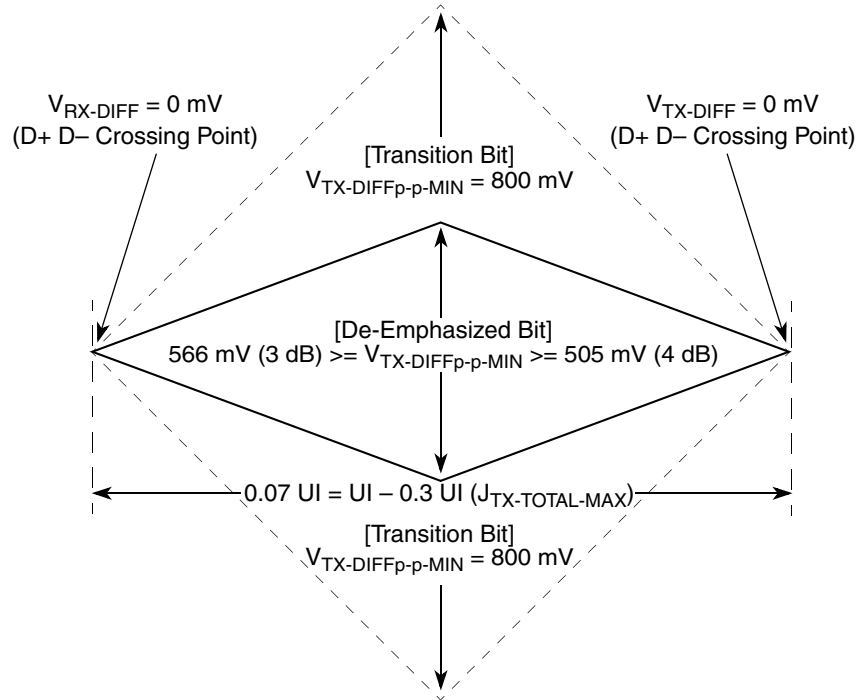
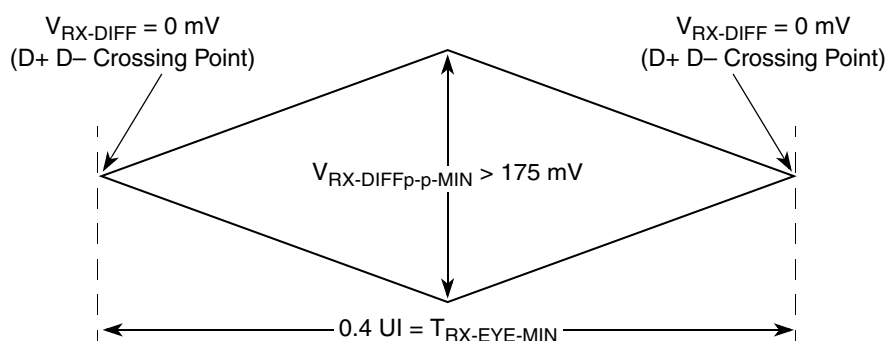
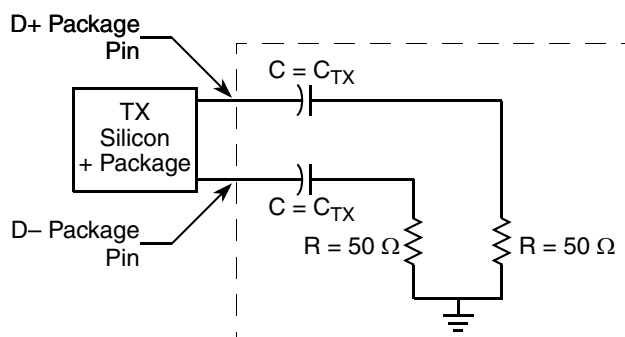

Figure 52. Minimum Transmitter Timing and Voltage Output Compliance Specifications
Figure 53. Minimum Receiver Eye Timing and Voltage Compliance Specification
Figure 54. Compliance Test/Measurement Load
2. Specified at the measurement point into a timing and voltage compliance test load as shown in Figure 54 and measured over any 250 consecutive TX UIs. (Also refer to the transmitter compliance eye diagram shown in Figure 52.)
4. The transmitter input impedance shall result in a differential return loss greater than or equal to 12 dB and a common mode return loss greater than or equal to 6 dB over a frequency range of 50 MHz to 1.25 GHz. This input impedance requirement applies to all valid input levels. The reference impedance for return loss measurements is 50 Ω to ground for both the D+ and D- line (that is, as measured by a vector network analyzer with 50- Ω probes—see Figure 54.) Note that the series capacitors C_{TX} is optional for the return loss measurement.
5. Measured between 20%–80% at transmitter package pins into a test load as shown in Figure 54 for both $V_{\text{TX-D+}}$ and $V_{\text{TX-D-}}$.
The TX eye diagram in Figure 52 is specified using the passive compliance/test measurement load (see Figure 54) in place of any real PCI Express interconnect +RX component.
2. Specified at the measurement point and measured over any 250 consecutive UIs. The test load in Figure 54 should be used as the RX device when taking measurements (also refer to the receiver compliance eye diagram shown in Figure 53). If the clocks to the RX and TX are not derived from the same reference clock, the TX UI recovered from 3500 consecutive UI must be used as a reference for the eye diagram.
4. The receiver input impedance shall result in a differential return loss greater than or equal to 15 dB with the D+ line biased to 300 mV and the D– line biased to –300 mV and a common mode return loss greater than or equal to 6 dB (no bias required) over a frequency range of 50 MHz to 1.25 GHz. This input impedance requirement applies to all valid input levels. The reference impedance for return loss measurements for is 50 Ω to ground for both the D+ and D– line (that is, as measured by a vector network analyzer with 50- Ω probes, see Figure 54). Note that the series capacitors CTX is optional for the return loss measurement.
The RX eye diagram in Figure 53 is specified using the passive compliance/test measurement load (see Figure 54) in place of any real PCI Express RX component.
In general, the minimum receiver eye diagram measured with the compliance/test measurement load (see Figure 54) will be larger than the minimum receiver eye diagram measured over a range of systems at the input receiver of any real PCI Express component. The degraded eye diagram at the input receiver is due to traces internal to the package as well as silicon parasitic characteristics which cause the real PCI Express component to vary in impedance from the compliance/test measurement load. The input receiver eye diagram is implementation specific and is not specified. RX component designer should provide additional margin to adequately compensate for the degraded minimum receiver eye diagram (shown in Figure 53) expected at the input receiver based on some adequate combination of system simulations and the return loss measured looking into the RX package and silicon. The RX eye diagram must be aligned in time using the jitter median to locate the center of the eye diagram.
The reference impedance for return loss measurements is $50\ \Omega$ to ground for both the D+ and D- line (that is, as measured by a vector network analyzer with $50\text{-}\Omega$ probes, see Figure 53). Note that the series capacitors, C_{TX} , are optional for the return loss measurement.
The AC timing and voltage parameters must be verified at the measurement point, as specified within 0.2 inches of the package pins, into a test/measurement load shown in Figure 54.